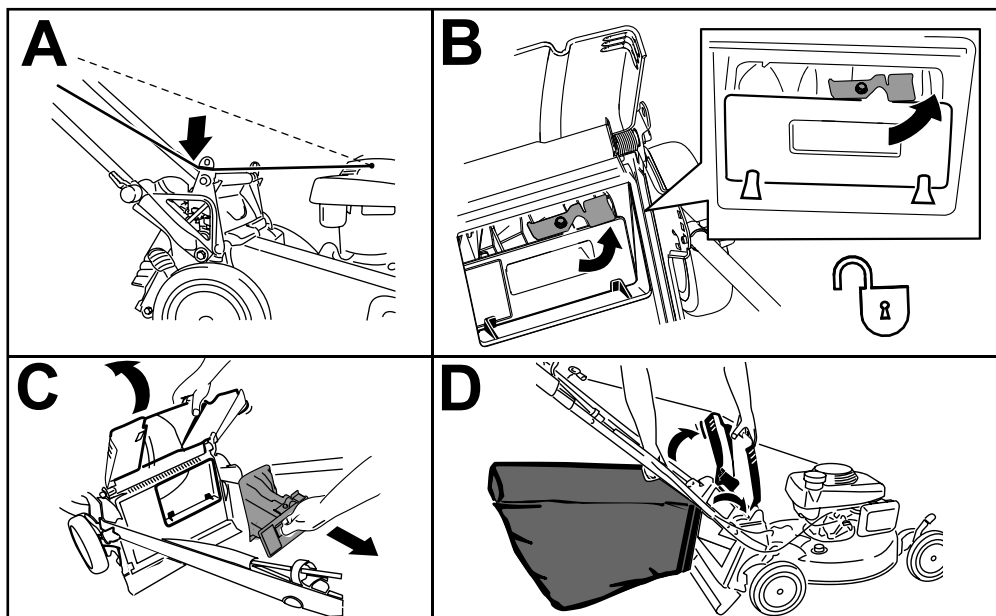

Figure 23
Note: To unlock the rear plug, rotate the lever on the plug to the right (Figure 23).
1. Route the starter rope around the lower-rope guide (A of Figure 23).
2. Raise and hold up the rear deflector and pull out the rear plug (B of Figure 23).
3. Pull out the rear plug (C of Figure 23).
4. Hang the upper front edge of the bag from the grass-bag pins on the notches of the handle brackets (D of Figure 23).